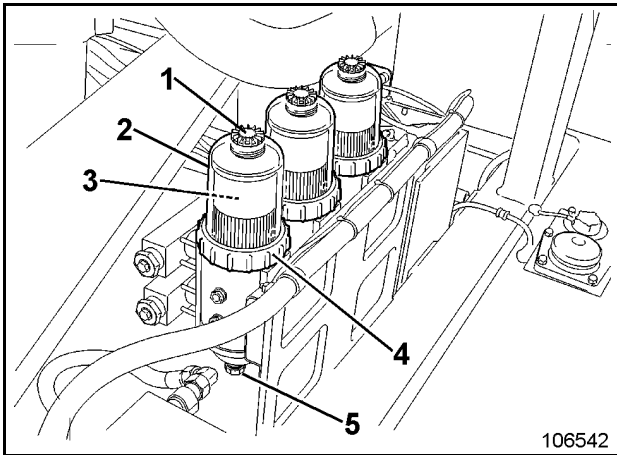

Fig. 3-51:
- Install the new filter (3) and grommet (7) on the filter stud.
- Place the new cover O-ring (8), cover (2) and collar (4) over the filter.
- Fill the clear cover (2) with enough fresh, clean fuel to cover the bottom half of the filter element.
- Make shure the new O-ring (6) is installed on the vent cap (1), install the vent cap (1). **Tighten by hand.**
- Swing the valve handle (1, Fig. 3-51:) into position "ON".